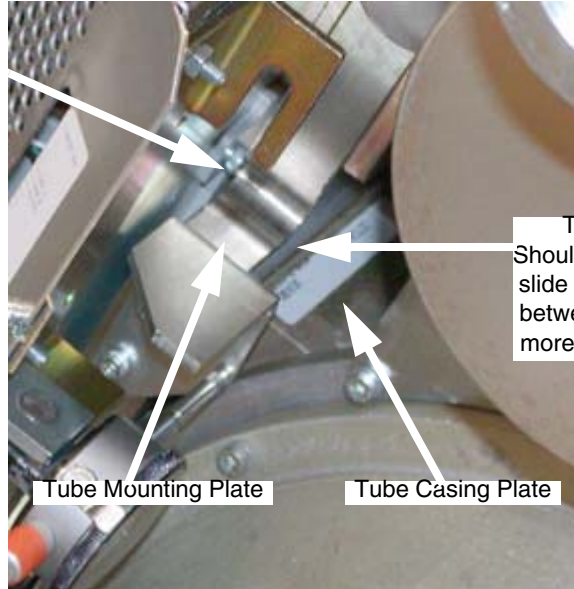

Figure 19 - Tube casing and Mounting plates
- Take a piece of paper and try to insert it between the tube casing plate and the tube mounting plate. Do NOT check between the mounting plate and collimator. See Figure 19 below.